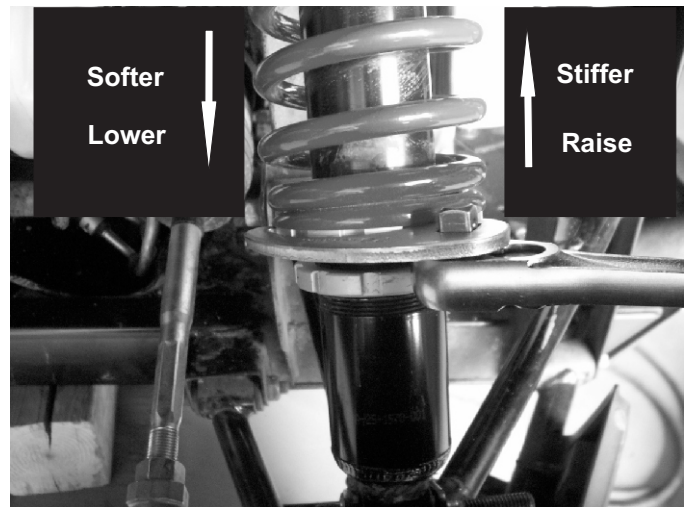

Figure 5
3. To stiffen the ride, raise ride height and reduce sag, thread the Adjusting Ring up the shock body. Or to soften the ride, lower the ride height and increase sag, thread the Adjusting Ring down the shock body. **Figure 5**.